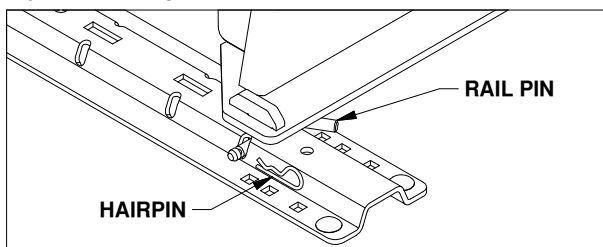

Figure B2: View of base leg.
2. **Insert pins.** Locate the four rail pins and hairpins. Insert each pin into the long slots in the base and through the rails. Lock each pin into place with a hairpin, see Figure B2.